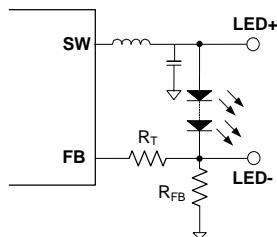

Figure 4: Feedback Network
The output current is set by the external resistor  $R_{FB}$  (see Figure 4). The feedback reference voltage is 0.2V, and  $I_{LED}$  is calculated with Equation (1):